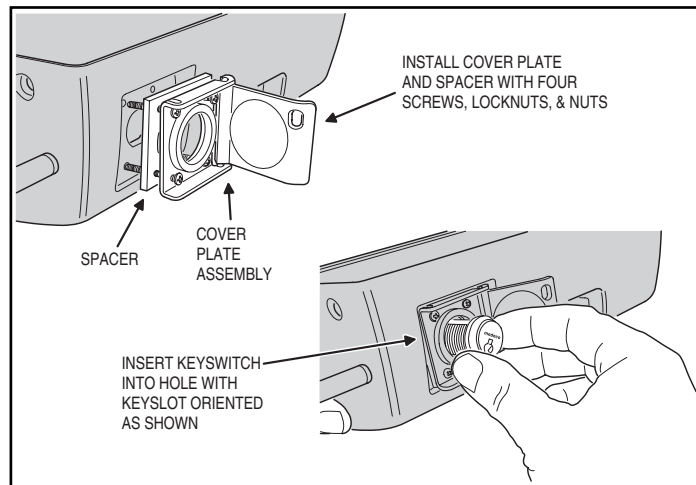
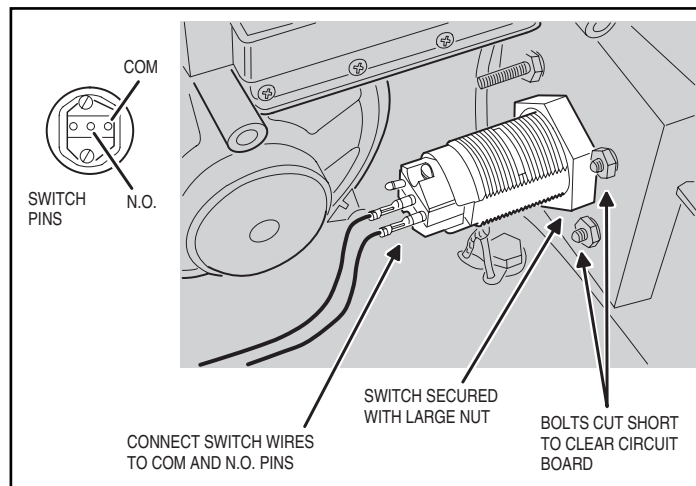

Figure 18. Installing the Keyswitch
Figure 19. Keyswitch Wire Connections
3. Hold the lock cover and plastic spacer in place on the RE-1 case. Secure the assembly with four screws, lock washers, and nuts. Slide the keyswitch into the hole, oriented as shown (see Figure 18). Secure the keyswitch with the large switch nut. Use bolt cutters to trim the two screws closest to the case edge so they will clear the circuit board (see Figure 19).
4. Plug the two keyswitch snap-on wire leads (supplied with the switch) onto the keyswitch **COM** and **N.O.** pins (see Figure 19).